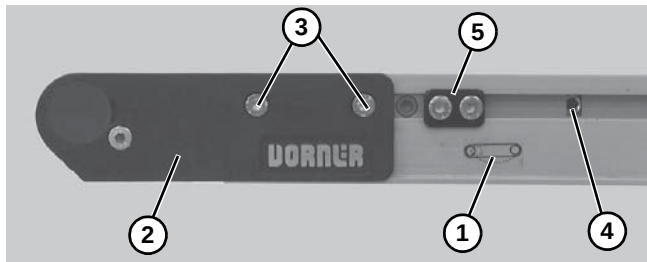

Figure 38
1. On tension end of the conveyor, identified with a  label (**Figure 38, item 1**), adjust head plate assembly (**Figure 38, item 2**): On both sides of conveyor, loosen fastening screws (**Figure 38, item 3**) and rotate pinion gear (**Figure 38, item 4**) to adjust head plate assembly.
2. Adjust head plate assembly so end of conveyor frame aligns with first tensioning mark (**Figure 39, item 1**). Tighten fastening screws (**Figure 38, item 2**) on both sides of conveyor to 60 in-lb (7 Nm).
3. If equipped with cam tracking assemblies (**Figure 38, item 1**), reposition against head plates and adjust belt tracking. Refer to "Conveyor Belt Tracking", page 19.